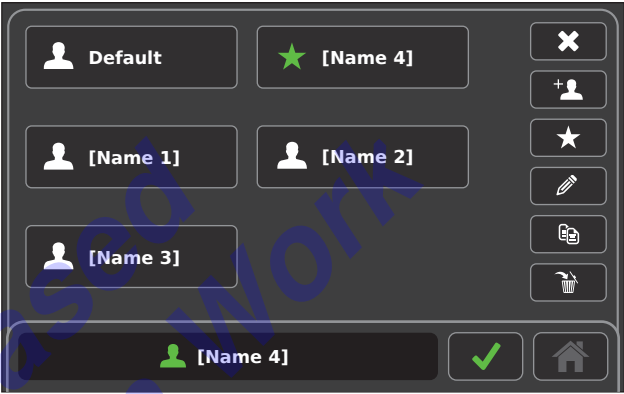

Figure 60 – Confirm Favorite Preset
4. Touch the CONFIRM button to save the preset as a favorite and exit the screen (Figure 60).